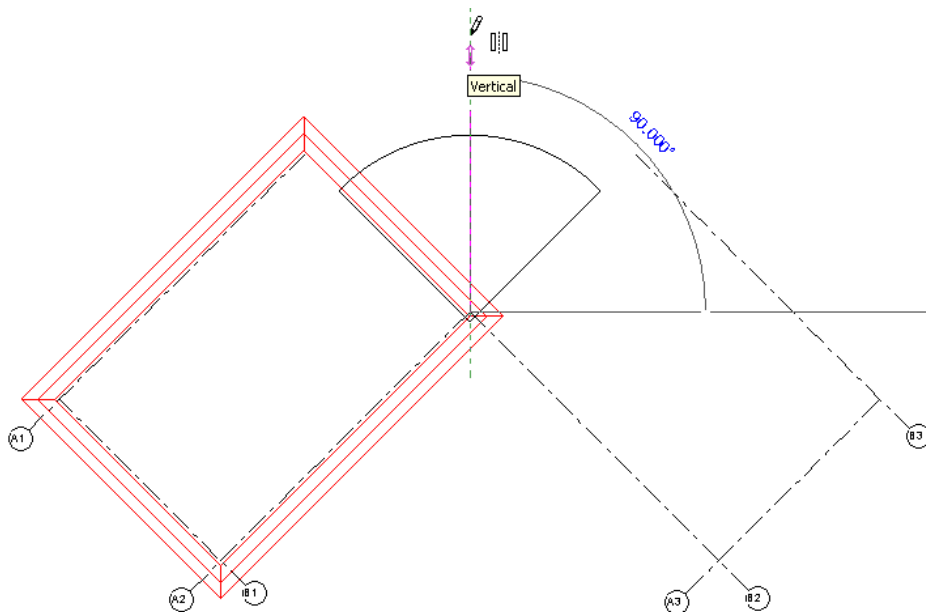

Figure 6-50 *Mirroring the roof of Hall 1*
40. Mirror the selected roof using the vertical axis originating from the intersection of the grid lines, as shown in Figure 6-50. (You can use the **Visibility/Graphics** tool to make the grids visible for this step, if they are not visible).